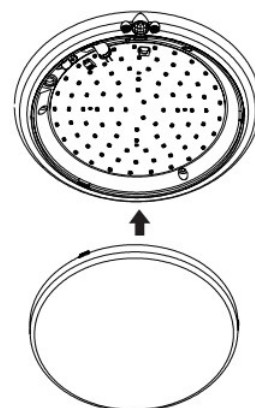

Fig.5
- Step7 Fasten the cover to the lamp base which has been installed on the wall and adjust the knob. (as **Fig.5**)